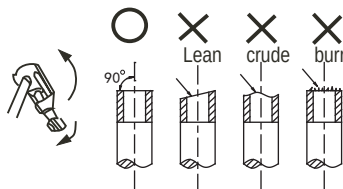

Fig. 7-1
- Cut a pipe with a pipe cutter. (Refer to Fig. 7-1)